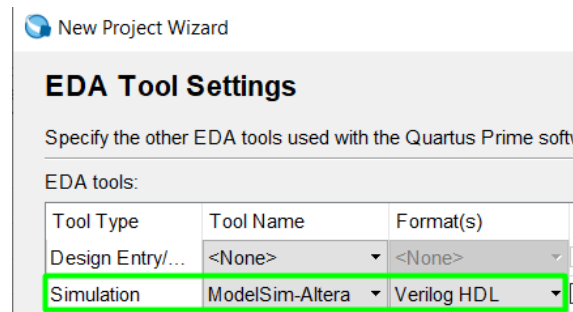

Figure 2
- f. EDA tools: ModelSim Altera; Verilog HDL (see Figure 2)